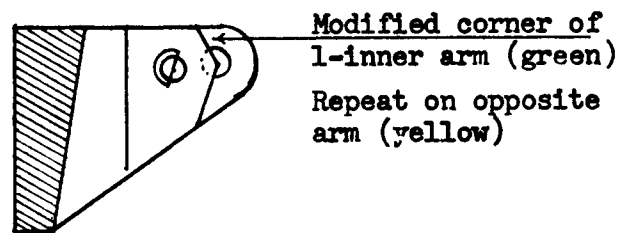

Figure 3
- (4) On the inner sides of each 35 mm arm scribe a third line connecting the ends of the lines mentioned in (2) and (3) above.
- (5) Use a medium cut, safety edge, flat file or a small grinding wheel, remove the angled corners down to the scribed lines. Do not cut into 70 mm band studs. The new corner on the front of the modified arms should appear close to the center point of the ends of the 70 mm band studs. Smooth all edges. The side view of a modified arm is shown in Figure 3.
- (6) Reinstall in reverse of procedure in (1) above.